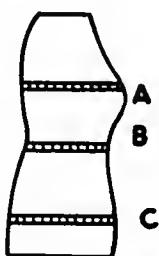

Fig. 29. General measurements.
- A. Place the tape measure snugly around the bust at the fullest part (Fig. 29, A).
- B. Place the tape measure around the natural waistline snugly, but not too tight (Fig. 29, B).
- C. Measure down 7 in. from the natural waistline, or lower if the fullest part of the hip is lower (Fig. 29, C).